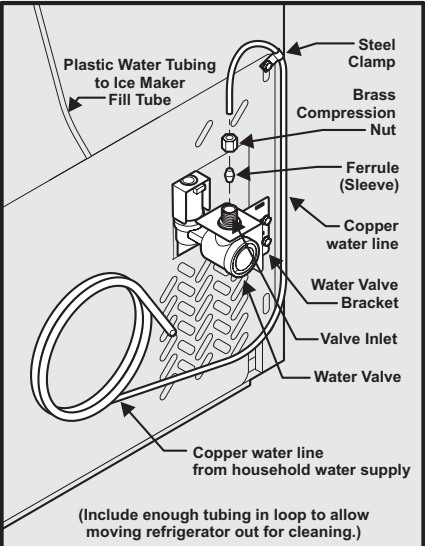

Figure 1
4. If you use copper tubing - Slide brass compression nut, then ferrule (sleeve) onto water supply line. Push water supply line into water valve inlet as far as it will go (¼ inch). Slide ferrule (sleeve) into valve inlet and finger tighten compression nut onto valve. Tighten another half turn with a wrench; DO NOT overtighten. See Figure 1.